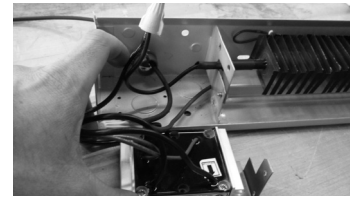

FIG. 3
4. Connect one of the black relay wires to the wire that comes out of the wire way (at the bottom of the unit) by using an appropriate wire nut. (FIG. 3)